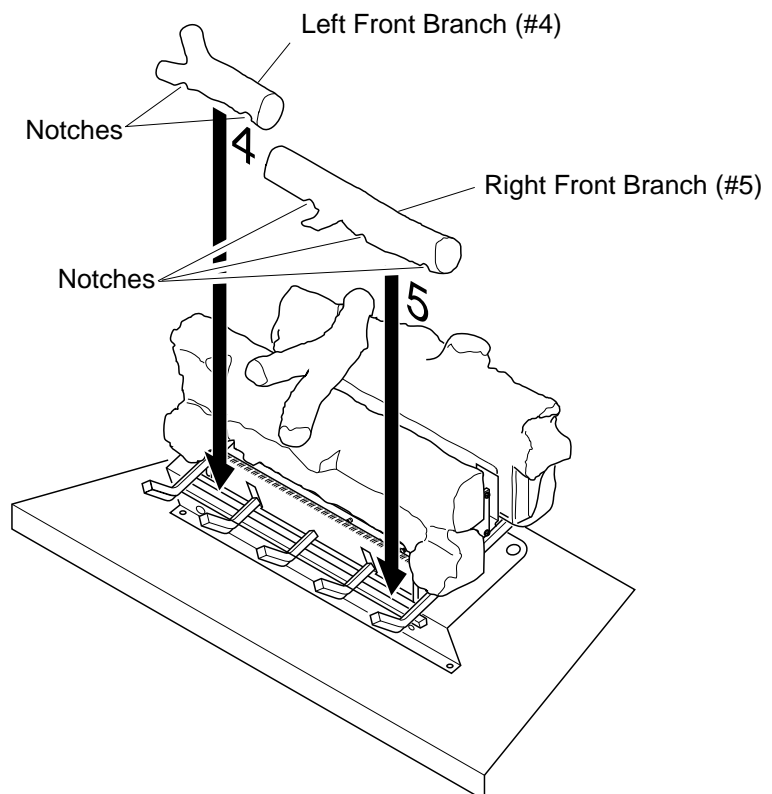

Figure 24 - Installing Left Front Branch and Right Front Branch
4. Place left front branch (#4) and right front branch (#5) into place (see Figure 24). Make sure notches on bottom rest on grates.